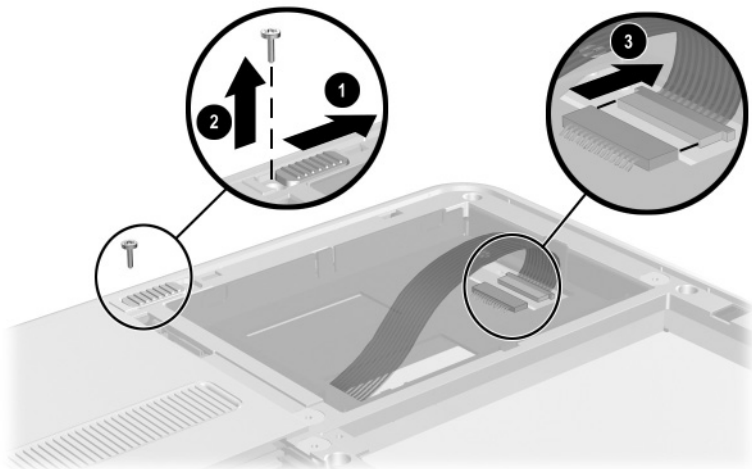

Figure 5-10. Removing the Display Panel Assembly Screw and Disconnecting the Digitizer Cable
5. Slide and hold the keyboard release latch ❶ to the right (Figure 5-10).
6. Remove the TM2.5 × 7.0 screw ❷ that secures the display panel assembly to the tablet PC.
7. Disconnect the digitizer cable ❸ in the hard drive bay.